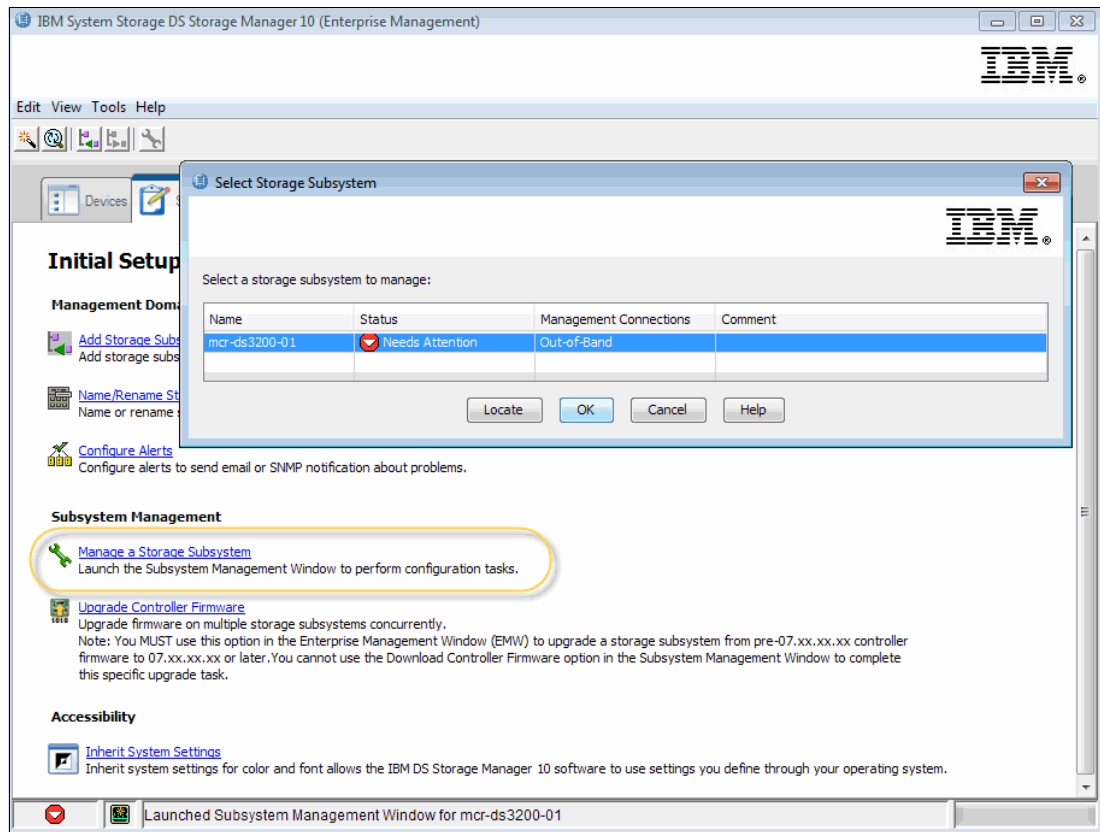

Figure 6-4 Selecting Storage system to manage: DS Storage Manager
- Using IBM System Storage DS® Storage Manager, connect to the external System Storage DS3200 system, as shown in Figure 6-4, and select **Manage a Storage Subsystem**. Select the system that you want to manage and click **OK**.